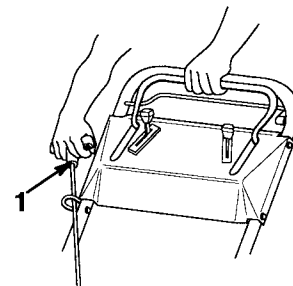

Figure 48
2. Slowly rotate engine several times, using starter rope, to distribute oil (Fig. 48).